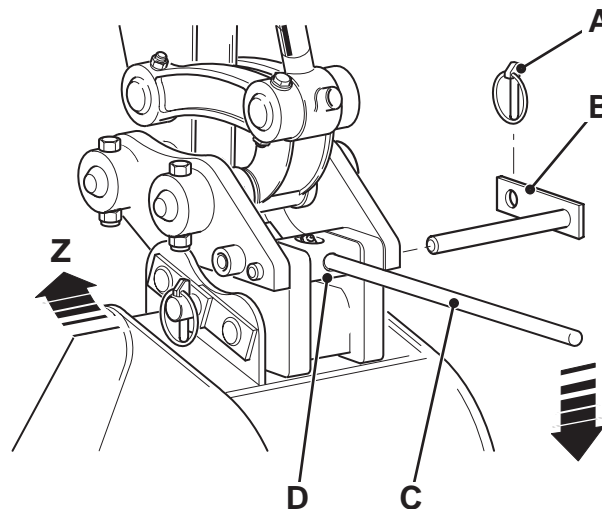

Fig 107.
- 4 Apply a downward pressure on the bar to release the buckets' rear pivot pin from the latch hook, ⇒ Fig 107. \(□ 284\) at Z. Remove the tommy bar from the Quickhitch.